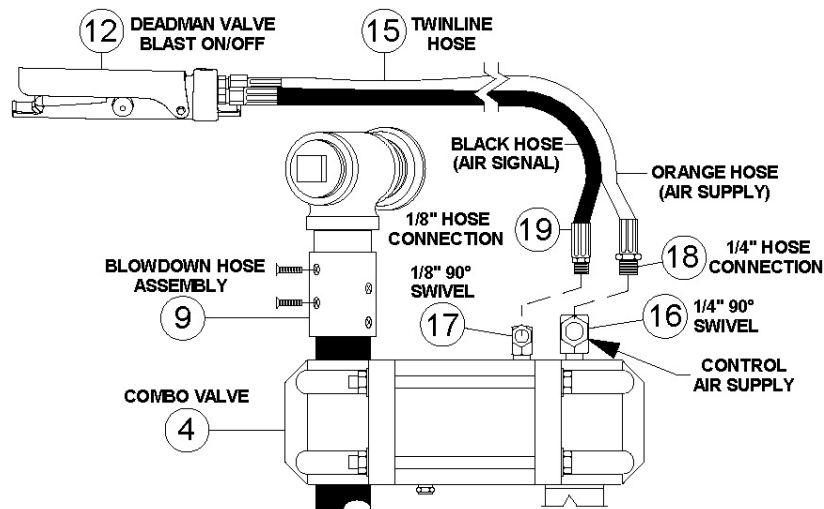

Figure 5.3 – MV3/Combo Pneumatic Deadman Blast Control System
5.8.1. Pneumatic Deadman System: When the pneumatic deadman (#12) lever is pressed down, air supply from the orange hose of the twinline hose (#15) flows into the black hose. Air flows through the black hose to the signal port of the Combo Valve (#4) to open it and send air into the abrasive blaster and blast air hose. When the deadman lever is released the air signal is cut off and the Combo Valve is closed to shut off the supply air and depressurize the blaster through the blowdown hose assembly (#9). See Figure 5.3 and the drawings in Sections 9.1 and 9.2.